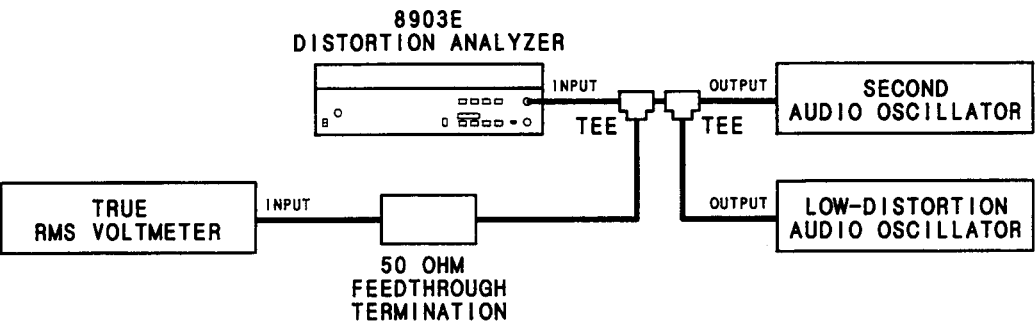

Figure 4-3. Distortion and SINAD Accuracy Test Setup
2. Connect the equipment as shown in Figure 4-3. The output impedance of both oscillators should be 50 Ω . Set the voltmeter to read ac volts. Set the output of the low-distortion oscillator to 6V into an open circuit.